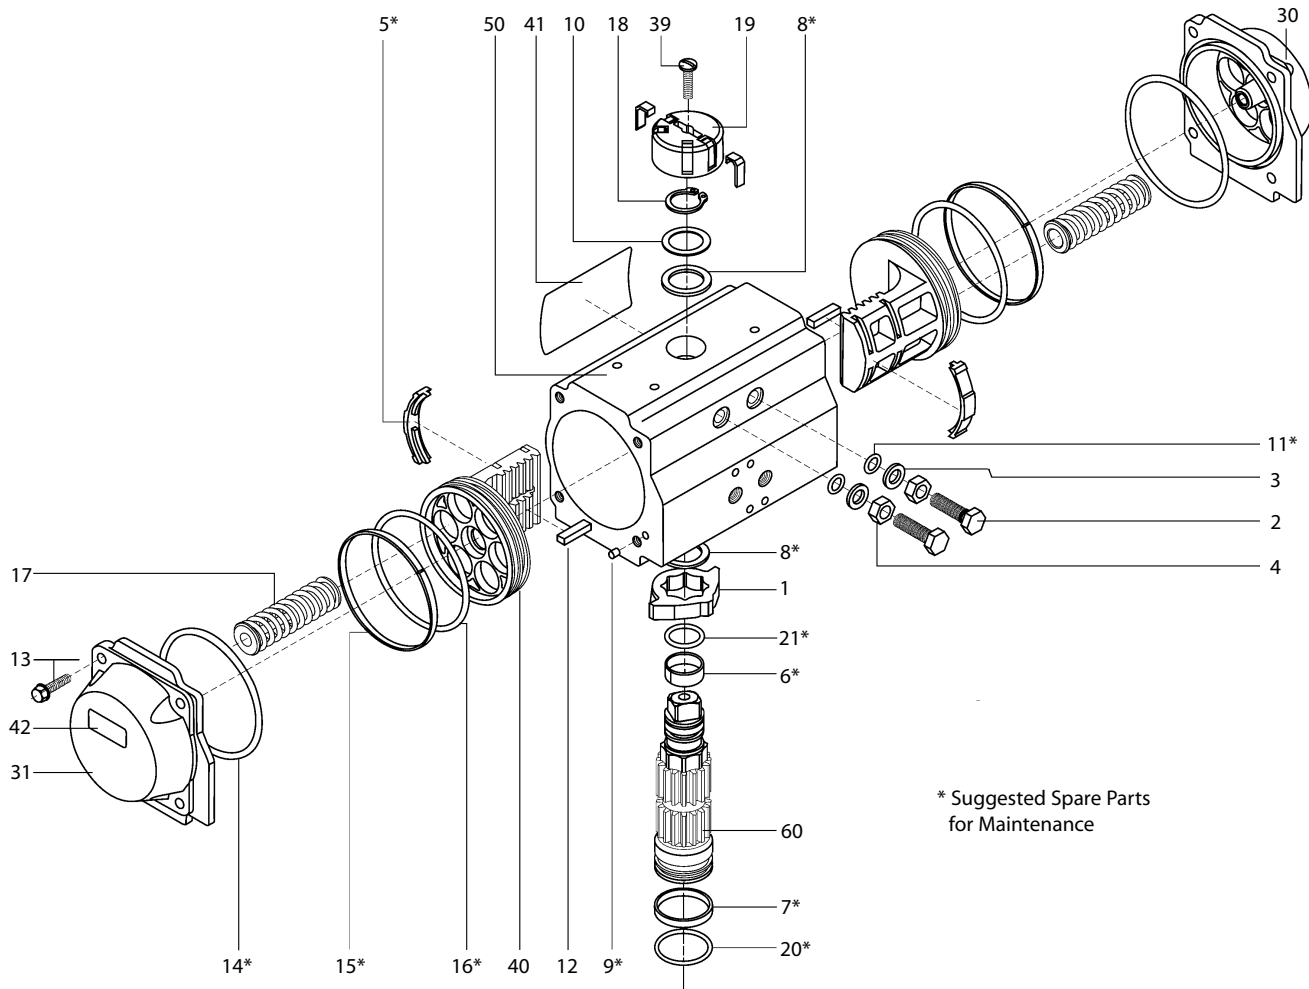

Figure 23
**TABLE 3 - PARTS LIST FOR (FIGURE 23)**